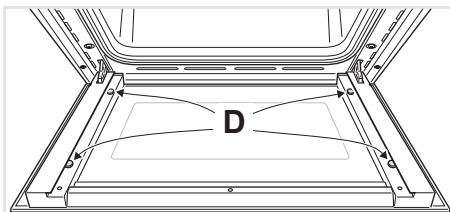

Fig. 4.11
- Check that the four rubber pads are in place ("D" in Fig. 4.11).